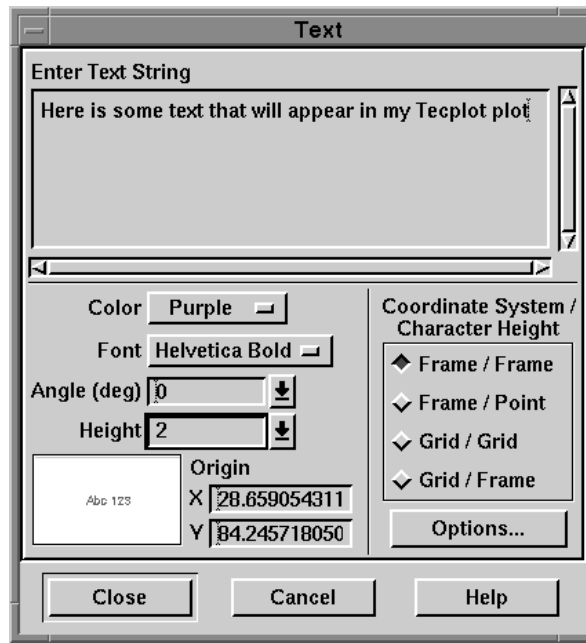

Figure 18-3. The Text dialog.
2. Click anywhere in a frame to indicate the location of the text. The Text dialog appears, as shown in Figure 18-3.